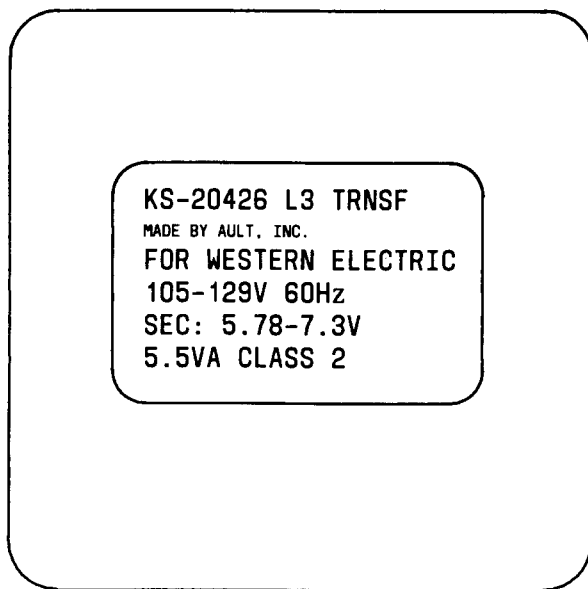

Fig. 11—KS-20426L3 (MD) Transformer Manufactured by AULT, INC.
Danger: All KS-20426L3 (MD) transformers manufactured by AULT, INC., are being recovered from the field. The transformers should be located and recovered on any customer premises visit (installation, repair modular conversion activity, etc.) and returned without delay to the local Western Electric Service Center. When removing and replacing the KS-20426L3 (MD) (AULT) transformer, the unit SHOULD NOT be unplugged and then plugged back into the associated ac power outlet, since the stability of the transformer could be affected by such action. See Fig. 11 for the manufacturer's identification marking on the transformer. This recovery plan does not apply to AULT, INC.,